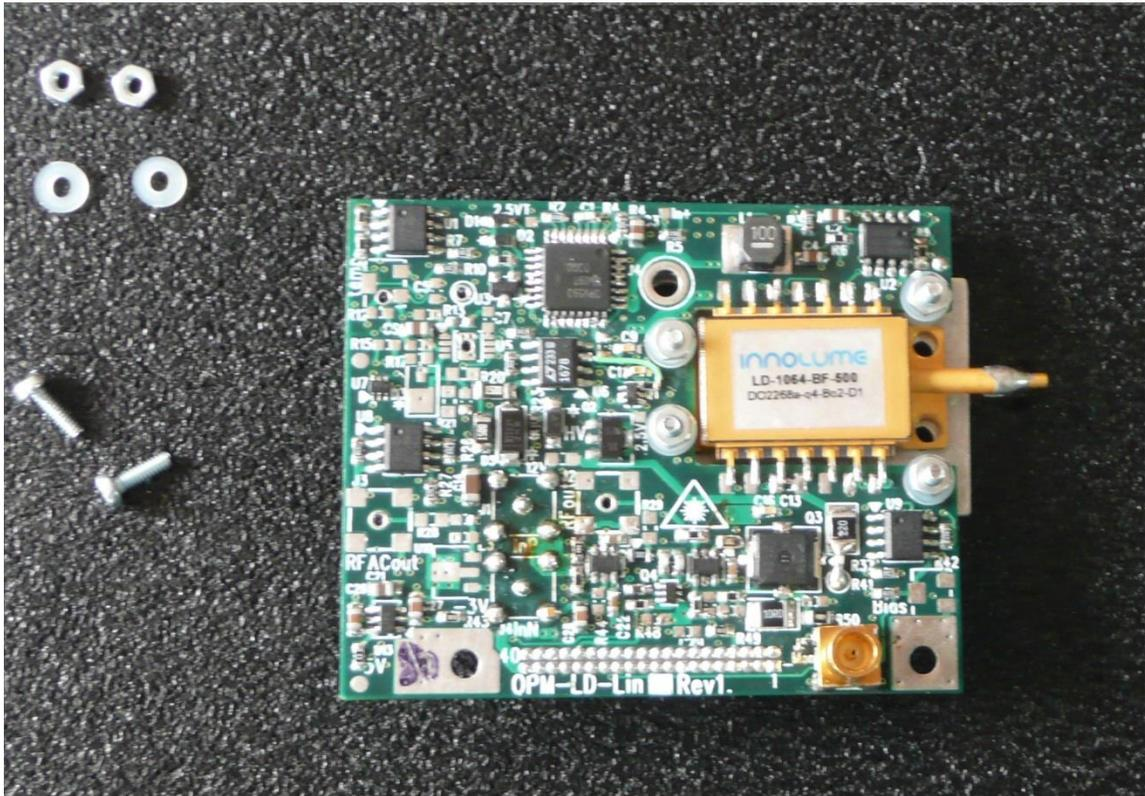

Figure 4
9. Place three nylon washers on each of two front (right side) screw holes. These three washers fill the gap between the PCB and the heat-sink. Refer to figure 4.
10. Put two 12mm screws at the right side holes of the PCB so that the screws head comes from the heat-sink side. Refer to figure 4.